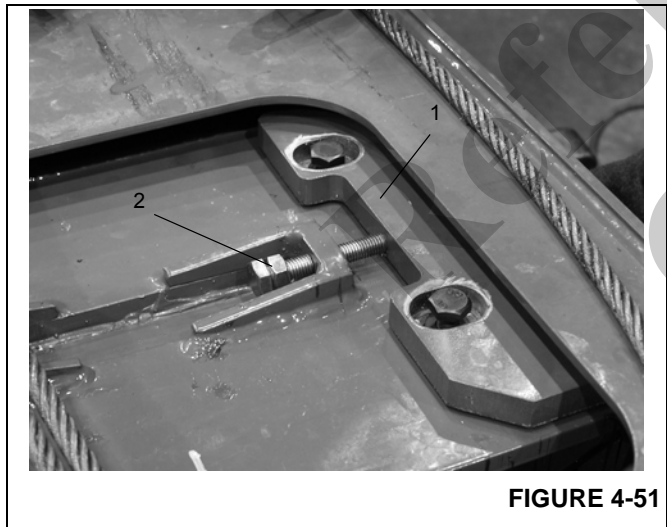

FIGURE 4-51
10. Insert the wear pads and pad holders (Figure 4-51, 1) on the left and right side of the Fly section.
11. Measure and adjust the wear pads until the Fly section is centered $\pm 1\text{mm}$ (± 0.04 inch) in the Outer Mid section. Apply Loctite and tighten jam nut (Figure 4-51, 2).